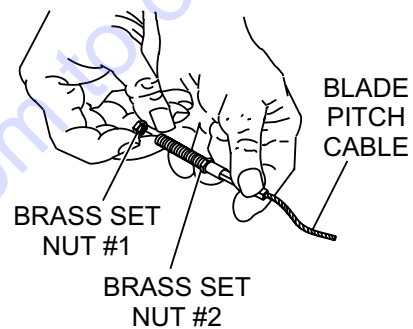

Figure 6. Blade Pitch Cable
2. Remove brass set nut #1 from the blade pitch cable end as shown in (Figure 6).
3. Thread brass set nut #2 (Figure 6) towards the cable as far as possible.